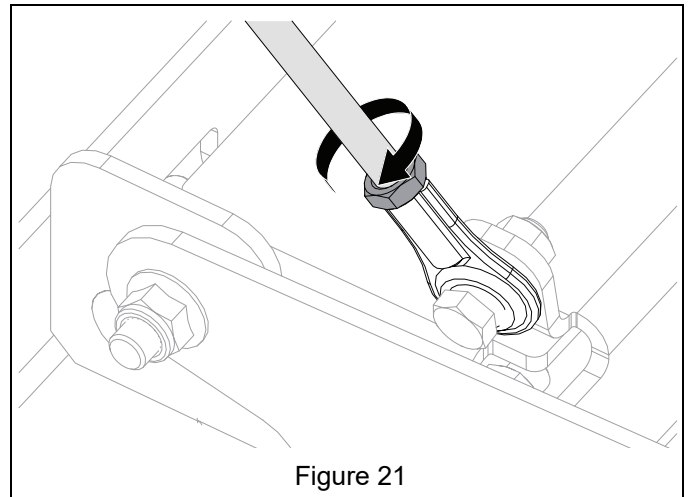

Figure 21
6. Tighten jam nut against ball joint. See Figure 21.